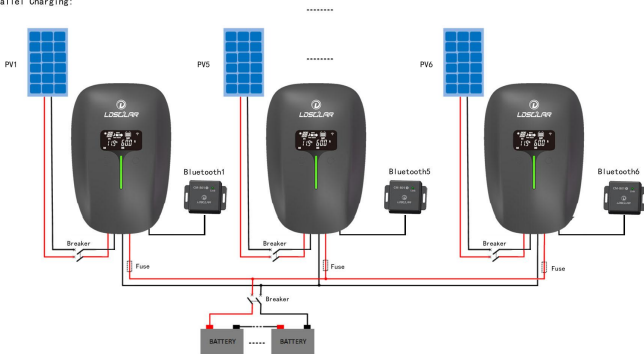

Figure 2-2 Schematic of wiring diagram
Connect the system in the order of ① battery ② PV array in accordance with Figure 2-2, "Schematic Wiring Diagram". and disconnect the system in the reverse order ②①.
① Single controller
② Connection in parallel